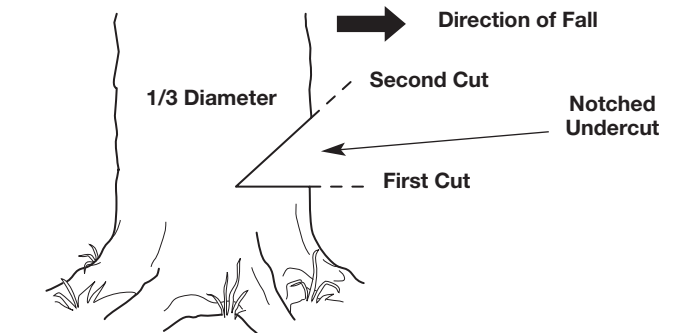

Fig. 17
1. Make a horizontal cut into the trunk of the tree (Fig. 17). The cut should be about 1/3 the diameter of the tree and close to the ground. To prevent the guide bar from being pinched by the weight of the wood, always make this cut first.
2. Make a 45° cut into the trunk of the tree, above the first cut (Fig. 17). Continue cutting until the two cuts meet.